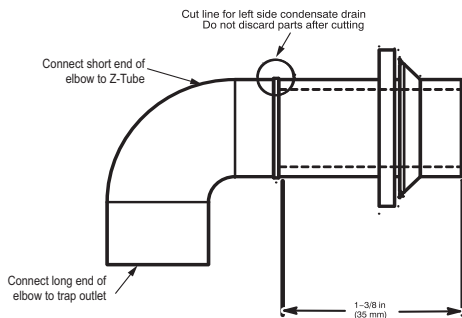

Fig. 17 – Modify Rubber Drain Elbow
3. The Z-pipe is connected to the condensate trap and the outside of the furnace by modifying the formed rubber drain elbow as shown in Fig. 17.
4. Remove the formed grommet from the rubber drain elbow by cutting the elbow along the vertical line located about 1-3/8 in. (35 mm) away from the formed grommet. See Fig. 17. **DO NOT DISCARD THE FORMED GROMMET OR THE RUBBER ELBOW.** Both of these pieces will be used.
TIP FROM CONTRACTORS: When installing the furnace horizontally, use the entire drain elbow (that is, do NOT cut as shown in Fig. 17 to connect the trap to the drain line. This helps to prevent bumps and shocks to the drain line from damaging the furnace drain trap. Avoid misalignment of the drain pipe which may cause kinks in the elbow.